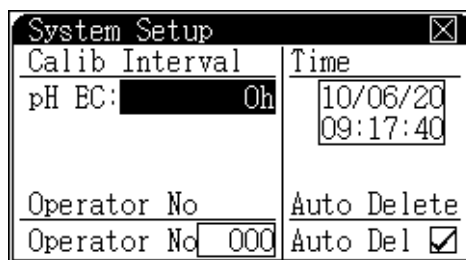

Figure 14 System setup
- 2 Select **System Setup**, and press **[Enter]** to enter **System Setup**. See Figure 14.